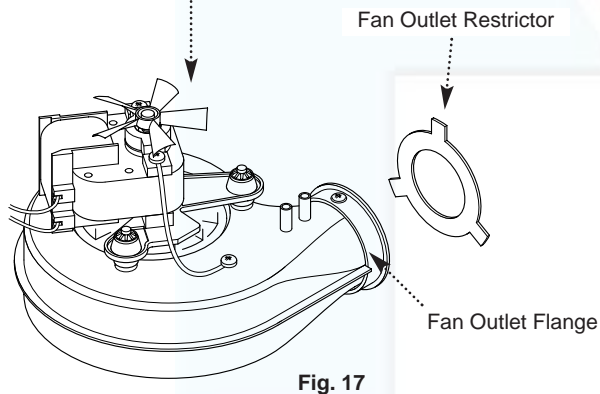

Fig. 17
4. Fit the restrictor to the fan outlet flange, bending the 3 lugs equally ensuring the restrictor seals against the fan outlet flange (Fig. 17).